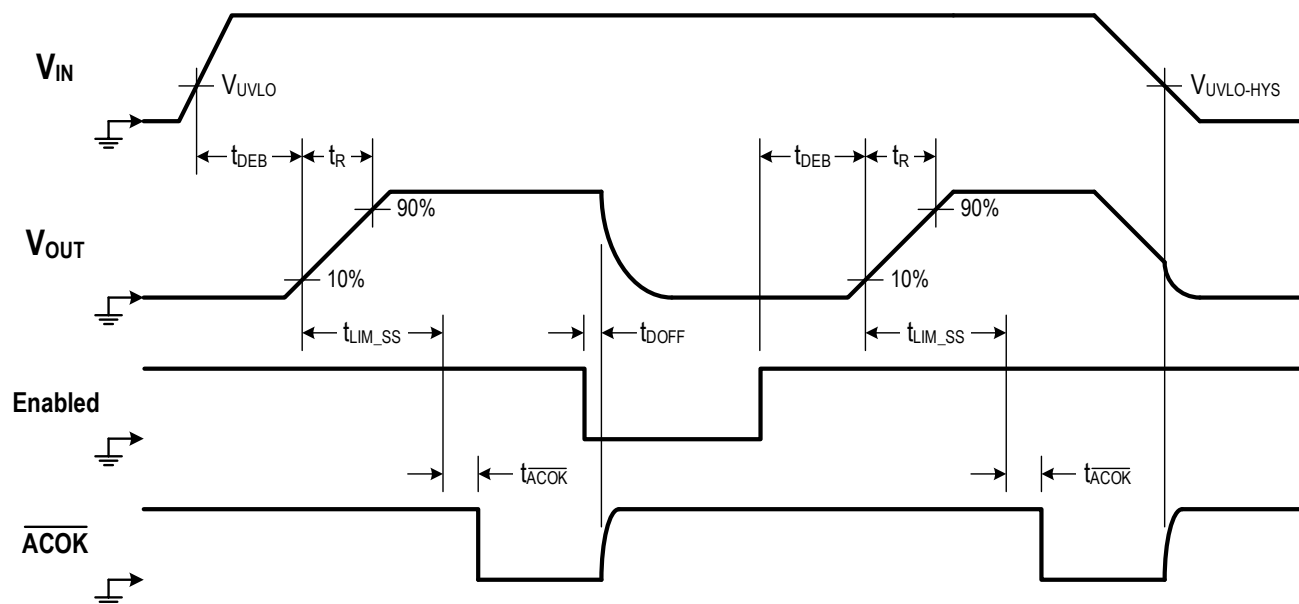

Figure 1. UVLO, Soft-Start and Turn-Off Timing Diagram
Soft-Start (SS) Specifications (see Figure 1)